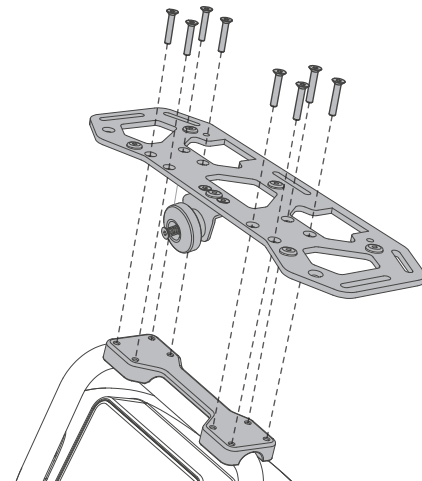

Figure 10. Install Cargo Rack
4. Position the Cargo Rack so it aligns with the Side Cargo Frame as shown in **Figure 10**.